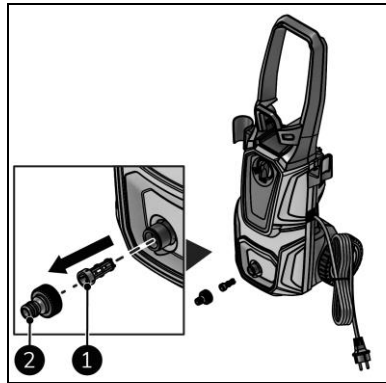

Figure 22
3. Unscrew the garden hose coupling (Figure 22, pos. 2).
4. Pull out the filter (Figure 22, pos. 1).